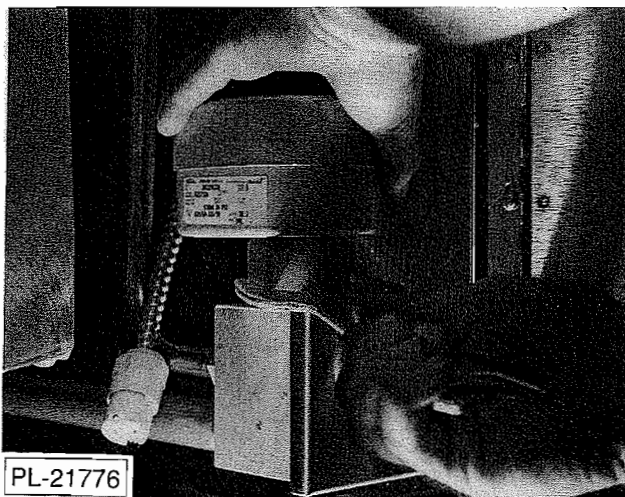

Fig. 21
2. Using the wrench supplied, loosen large hex nut on solenoid (Fig. 21) and remove top portion of solenoid assembly.